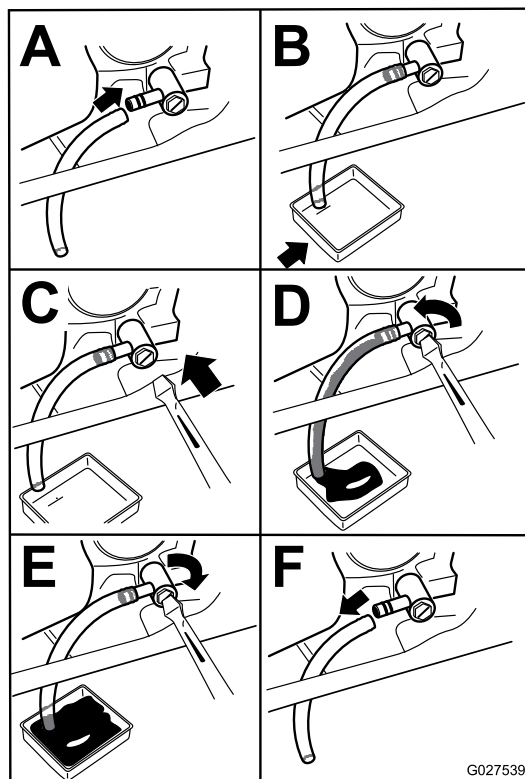

Figure 46
3. Stop the engine, remove the key, and wait for all moving parts to stop before leaving the operating position (Figure 46).